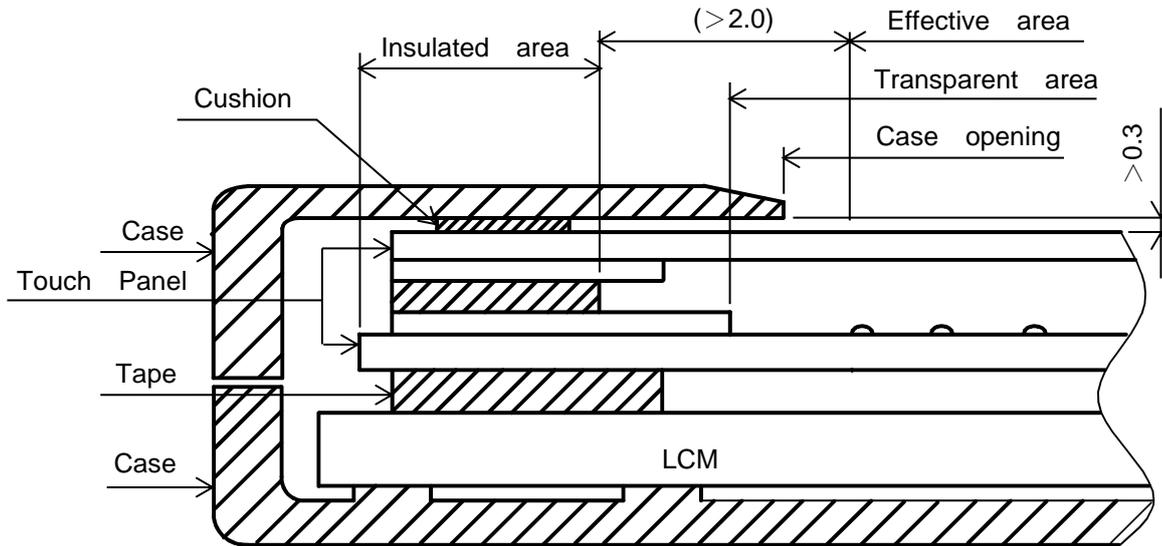

Fig 13.1
1) Please refer to Fig. 13.1 for housing the display with touch panel into applications. The Fig. 13.1 shows some points as below:
1) The lot mark is showing in Fig.13.1. First 4 digits are used to represent production lot, T represented product of JDI Taiwan, and the last 6 digits are the serial number.